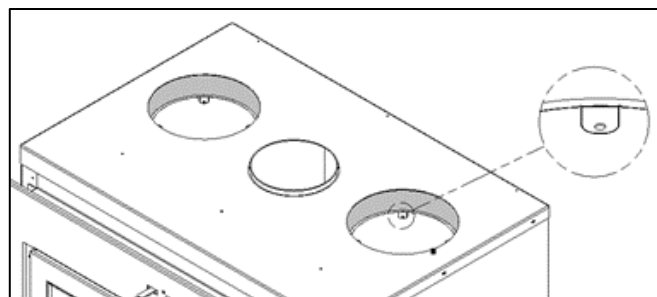

Figure 3-21: Tabs Inside the 8 Inch Knockouts
9. Bend the tabs inside the 8 inch knockouts (Figure 3-21) upwards.